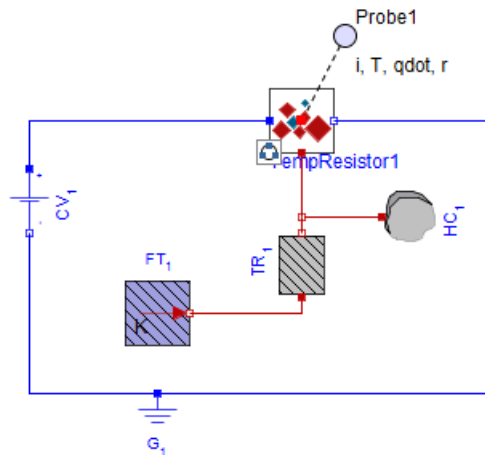

Figure 6.4: Temperature Dependent Resistor
32. Create the model shown in **Figure 6.4** with the components and settings specified in **Table 6.1**.